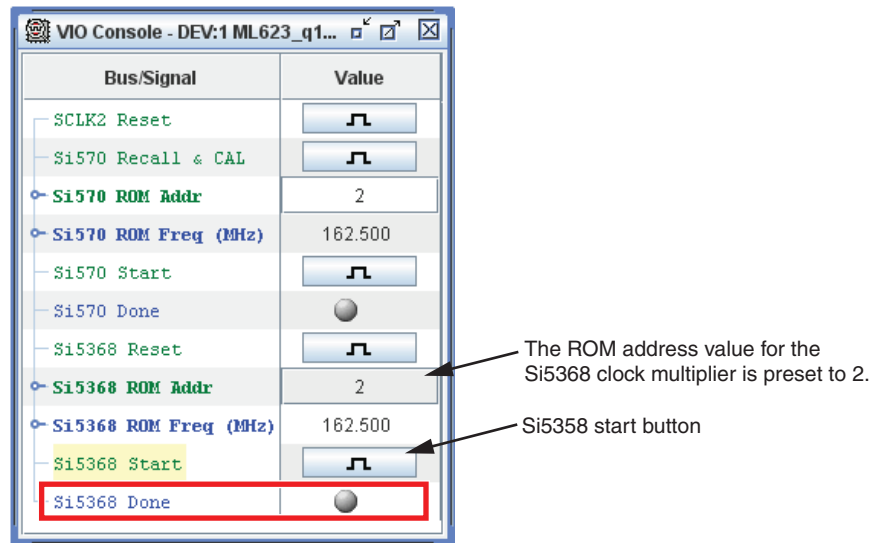

Figure 1-11: VIO Console, Si5368 Initialization
- a. If using the Si5368 device to source the GTX transceiver clocks (e.g. as described in Table 1-1, page 9), initialize the Si5378 device. Click the **Si5368 Start** button (Figure 1-11). A transition arrow flashes ON/OFF to the right of **Si5368 Done** when the command is complete.